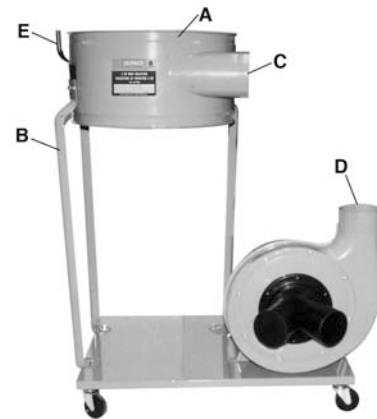

FIGURE 9
6. Install housing (A) Fig.9 to three support brackets (B) using 6 hex. bolts, 12 flat washers and 6 hex. nuts. Make sure the hose opening (C) faces the fan housing (D). Before attaching the third support bracket, place hanger bracket (E) between the support bracket and the housing as shown (KC-3109C only). Tighten all bracket nuts and bolts at this time.